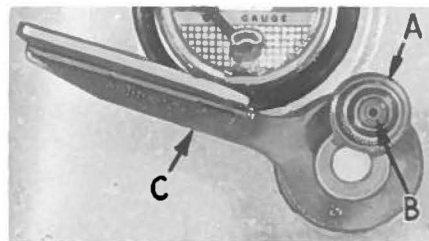
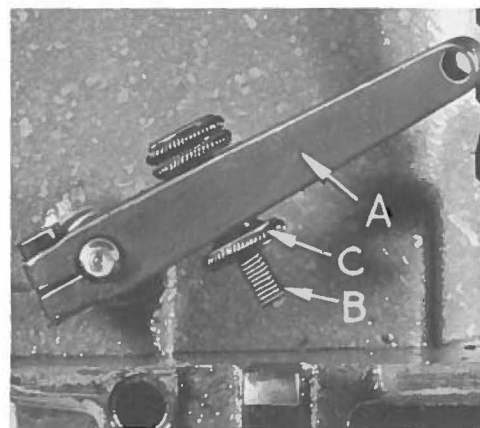

Fig. 9
Fig. 11
1. The reverse feed is actuated by pushing down on the feed control lever (C, Fig. 9) and the reverse feed will continue to operate as long as the control lever is held down.
**CAUTION!** On machines equipped with a treadle control reverse feed lever (A, Fig. 11) remove this lever before tipping machine against the rest pin.
7. On machines equipped with a treadle control reverse feed lever (A, Fig. 11), hold down the reverse feed control lever (B, Fig. 9) and adjust the stop screw (B, Fig. 11) to stop against the bed casting. Lock stop screw (B) in this position with lock nut (C). This is to prevent damage to the feed adjusting screw, when reverse feed is actuated by stepping on the treadle.